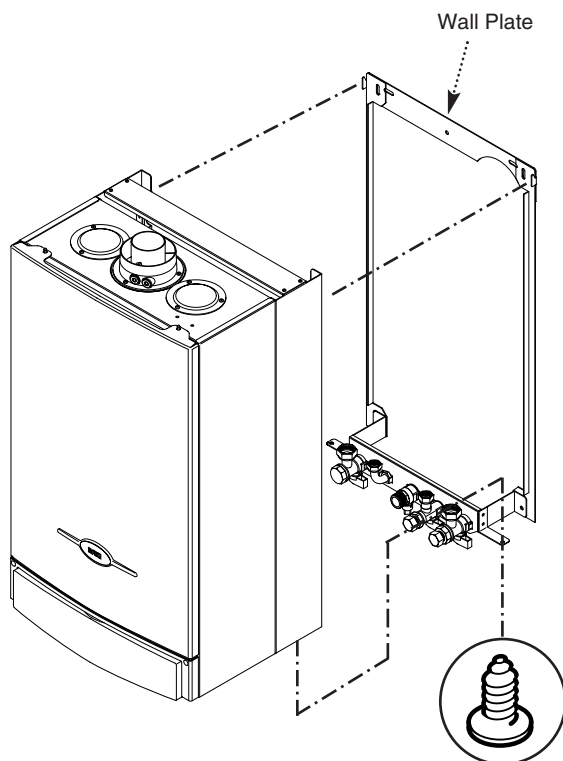

Fig. 19
2. Lift the boiler using the lower edges. Engage the slots at the top rear of the boiler on the wall plate (Fig. 19).
5. Secure the boiler side panels to the boiler wall plate flanges using the screws provided (Fig. 19).